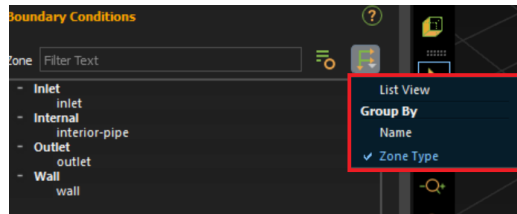

Figure 46: Boundary conditions grouped by Zone Type in Fluent.
6. It is now necessary to setup the boundary conditions for the problem. In the same *Zones* group of the *Physics* ribbon tab, click on *Boundaries*. This will open the *Boundary Conditions* task page⁴. It is convenient to display the boundary zones grouped by *Zone Type*: this can be achieved by clicking the *Toggle Tree View* button in the upper right corner of the *Boundary Conditions* task page, and under the *Group By* select *Zone Type* from the drop-down menu, as shown in figure 46.